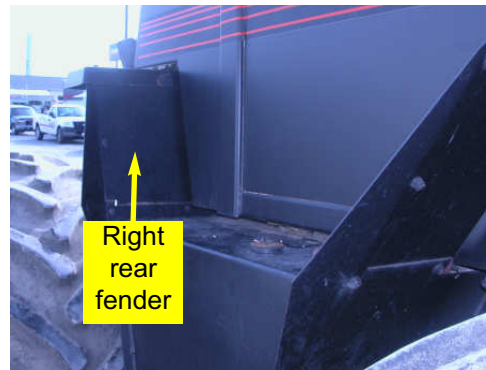

Figure 2a. Right, rear fender mounting location.
- a. Locate and install the mounting bracket (D) on the right, rear fender above the fuel tank. (Figure 2a. and 2b.)